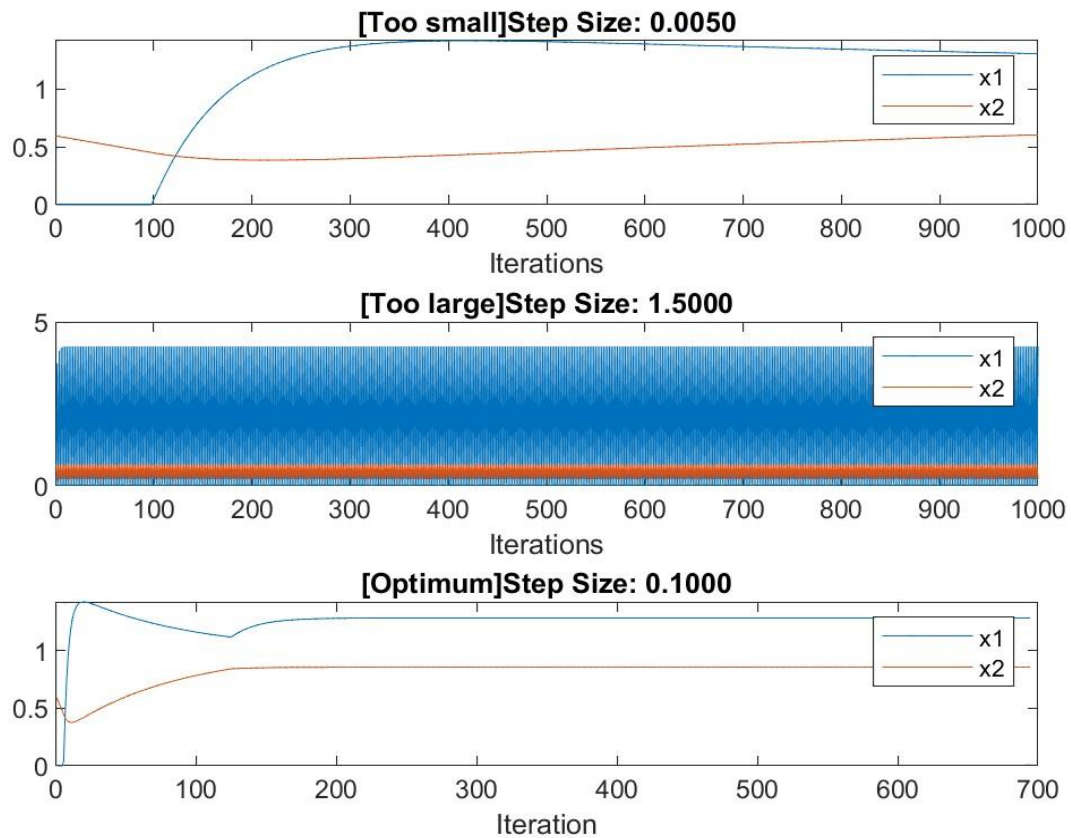

Figure 19
I.) Trajectory of Primal variables for the above gamma values across iterations is given by Figure 19.